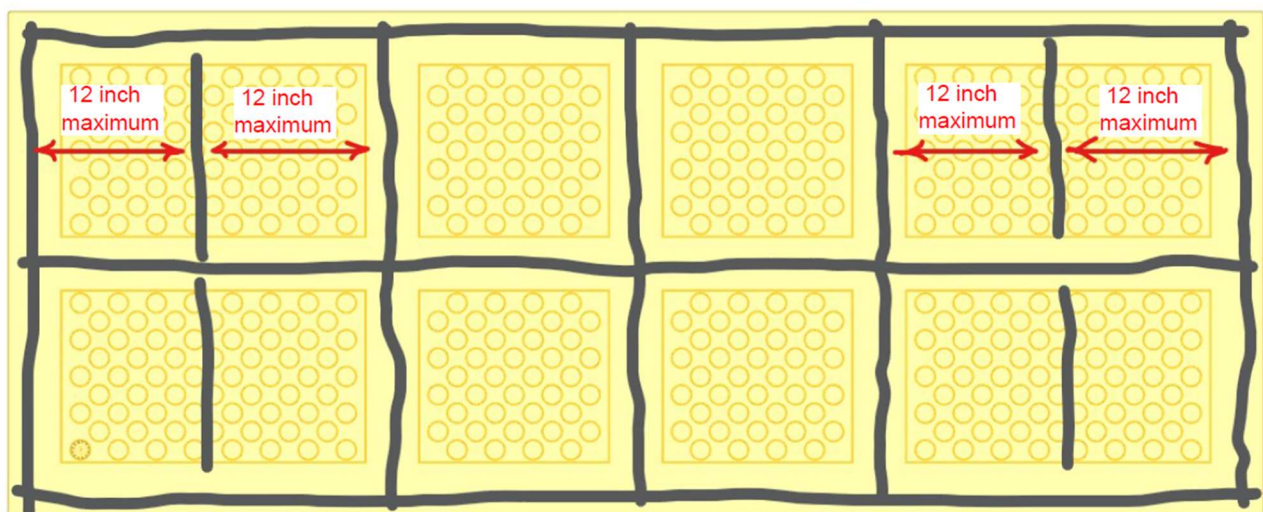

Figure 1: Bottom view of 2x5 Surface Applied panel with adhesive applied.
- a. Apply a 3/8 inch bead of adhesive (supplied with panel) continuous around the perimeter located at approximately 1 inch from the outer edge of the panel (Figure 1).